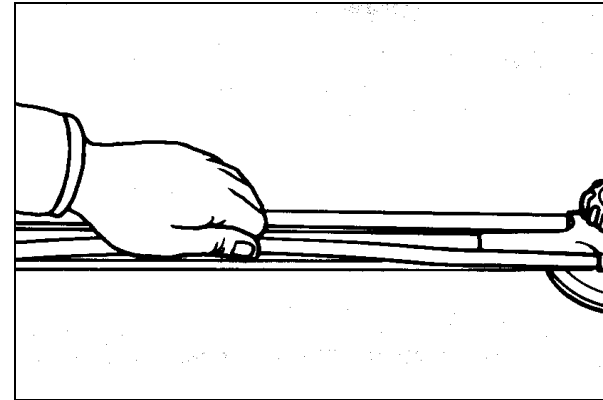

Figure 13
B. Removing Band Covers (Figure 13)
Grasp the band cover near the center with the thumb and forefinger of one hand and raise it firmly so that it bows upward as shown in Fig. 13. When approximately the central third of the cover is raised clear of the band, swing it slowly but firmly to the side away from the tubular arm, at the same time working one end free from the bracket by means of the thumb and forefinger of the free hand. The other end can then be withdrawn from its bracket. When installing, put one end down over the band and slide into the adjacent bracket, then do the same with the other end and work the central part down over the band. Work the cover along until the projections near the ends are equidistant from their respective brackets.